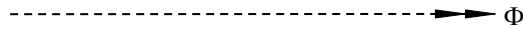

Figure 13
Step 2: Locate voltages and currents on the phasor diagram, see figure 13.